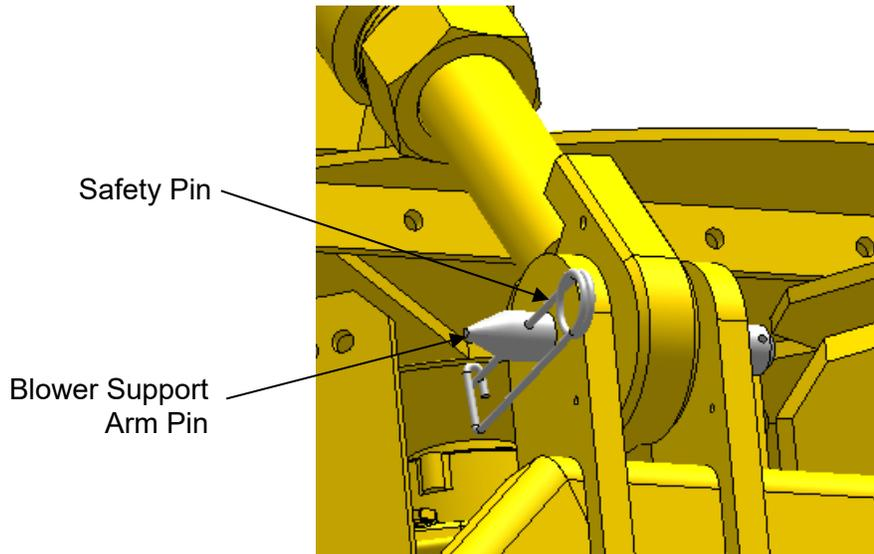

Figure: 4.13 Installing the safety pin
8. Install the safety pin in the hole in the blower support arm pin for retention as shown in Figure 4.13.